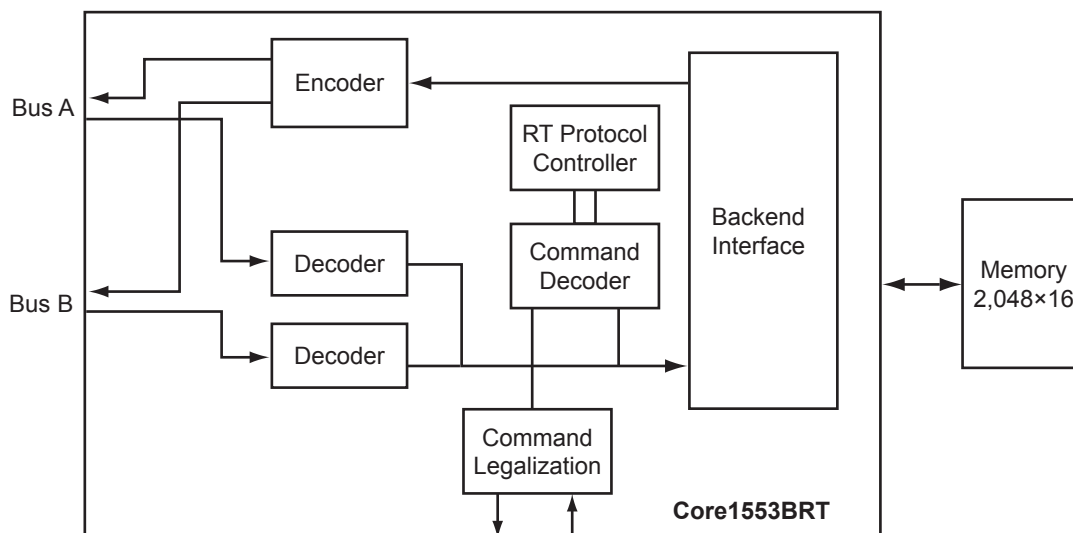

**Figure 1 • Typical Core1553BRT System**
Core1553BRT provides a complete, dual-redundant MIL-STD-1553B remote terminal (RT), apart from the transceivers required to interface to the bus. A typical system implementation using Core1553BRT is shown in Figure 1 and Figure 2 on page 5.